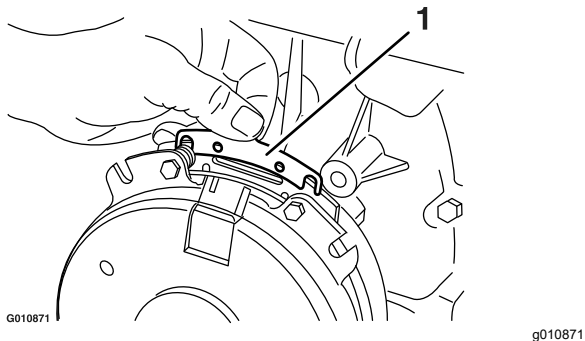

Figure 66
- B. Using needle-nose pliers, or by hand, hold the tab and remove the shim (Figure 66).
Remove any buildup of grass, dirt, or other debris from the engine screen. This helps ensure adequate cooling and correct engine speed and reduces the possibility of overheating and mechanical damage to the engine (Figure 66).